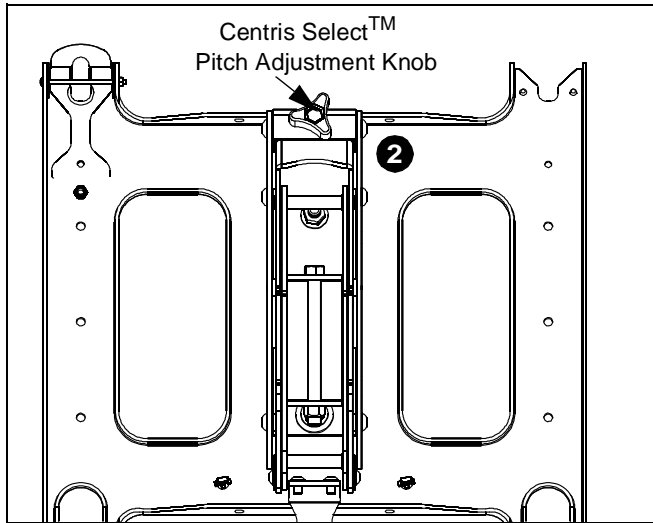

Figure 7
2. If required, adjust the Centris Select™ knob right or left until desired Pitch tension is obtained. (See Figure 7)